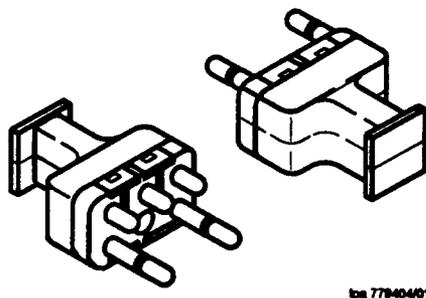

Figure 4. Typical 5-Type Protector Unit
2.22 The 5-type protector unit (Figure 4 and Table G) provides no electrical protection and contains no carbon blocks, gas tubes, or heat coils. It is used to maintain circuit continuity between outside plant and central office equipment.